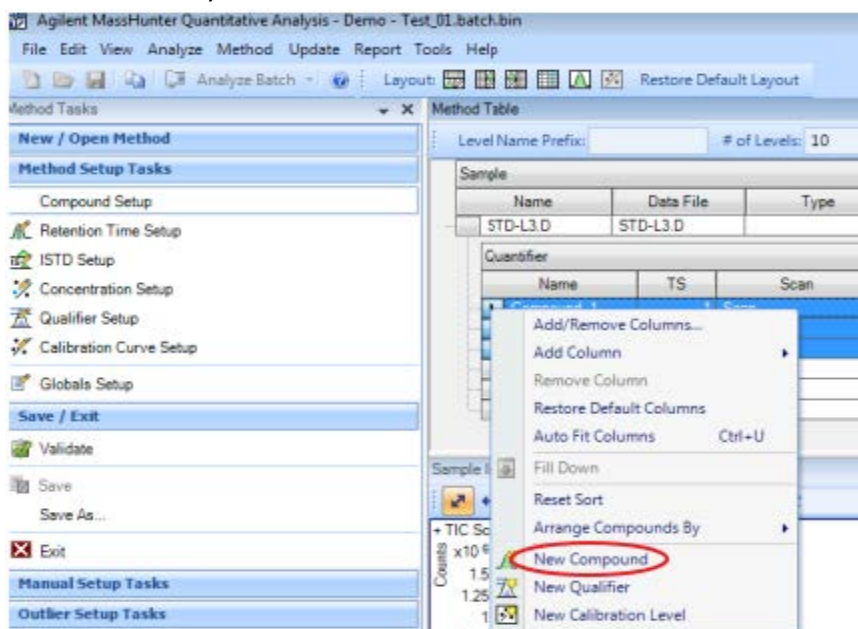

Fig.15
- e. Compound set up. Choose the peak you are going to analyze. Double click the peak and the MS spectrum will show up. Click the quantitative ion when there is a blue triangle shows. Right click at the blue triangle and choose New compound (Fig.15). Choose the qualifier ion and set as New Qualifier follow the same way.